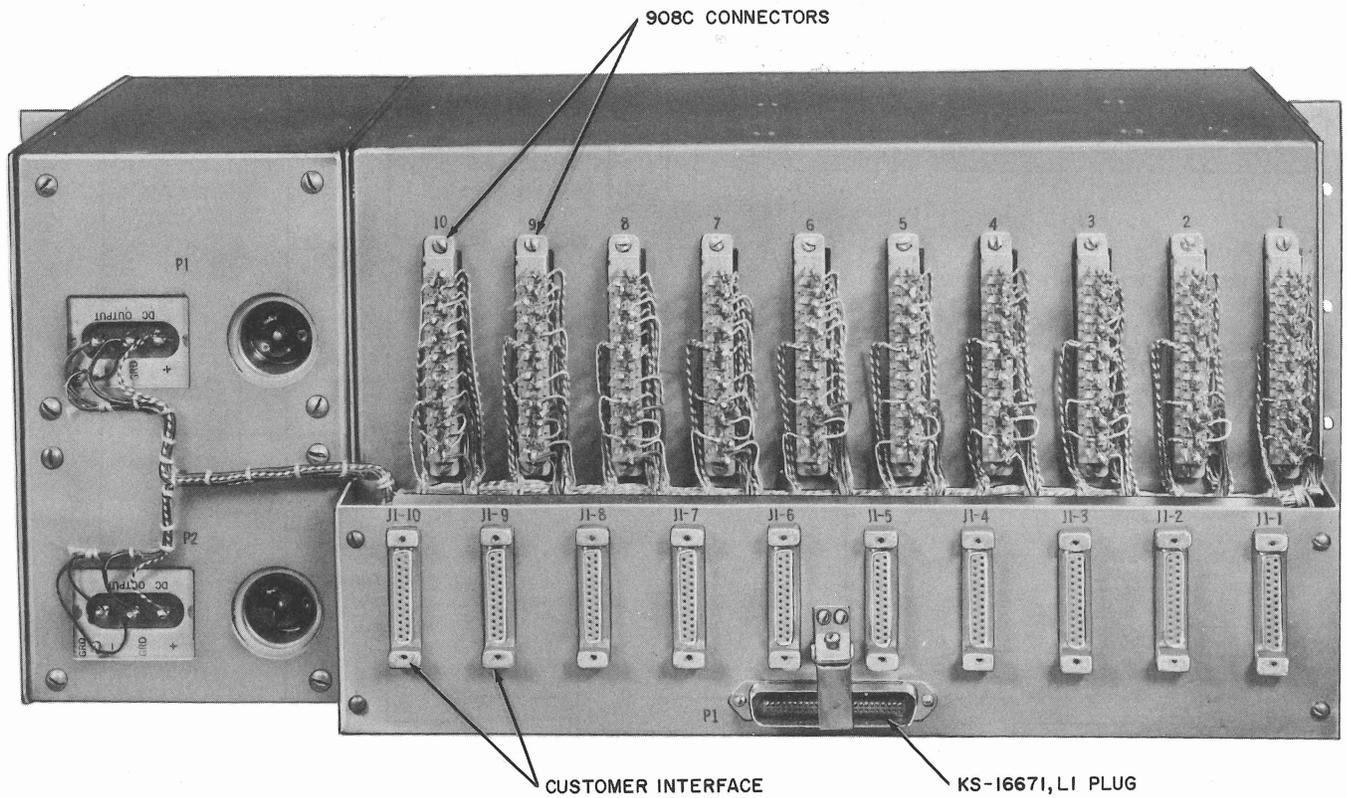

Fig. 4 — Data Auxiliary Set 816B1, Rear View
2.02 DAS 816B1 consists of ten 908C connectors (for a maximum of 10 data coupling units), a monitoring selector switch (MON), a monitoring amplifier (CP-BN1) and (MON) jack (548A-49), two J87215A-1, List 1 rectifiers (P1 and P2), and a KS-16671, List 1 plug connector (for connecting the 130-type teletypewriter subscriber sets to the DAS 816B1 on a 23-inch relay rack mounting panel, nine inches high (Fig. 4).